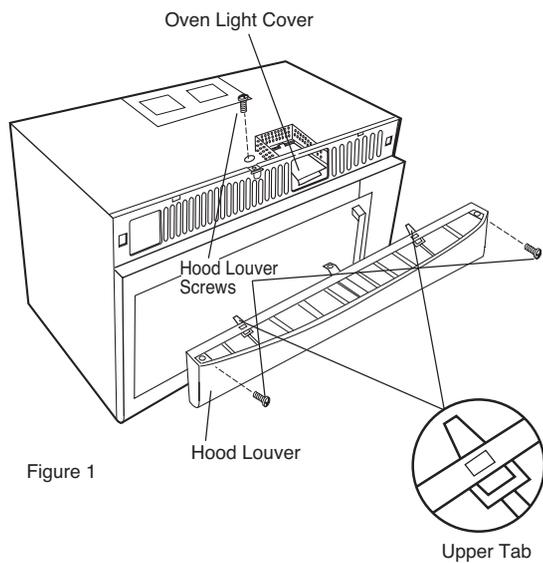

Figure 1
2. Open oven light cover by carefully pulling up on the front edge. See figure 1.